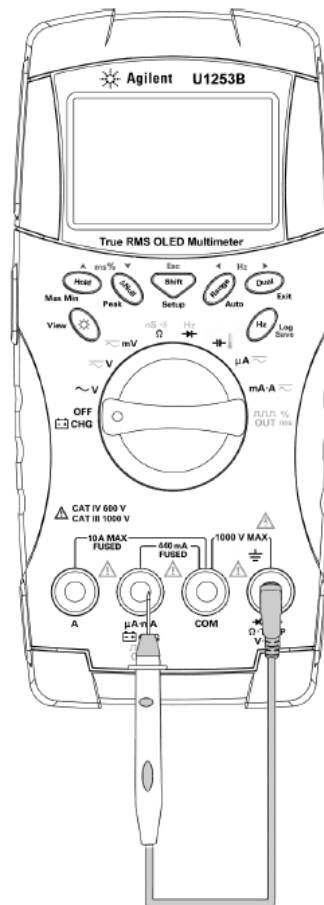

Figure 5-8 Fuse checking procedures
- 3 To test Fuse 1, place the tip of the test probe on the right half of input terminal . Ensure that the probe tip touches the metal inside the input terminal, as shown in Figure 5-8.